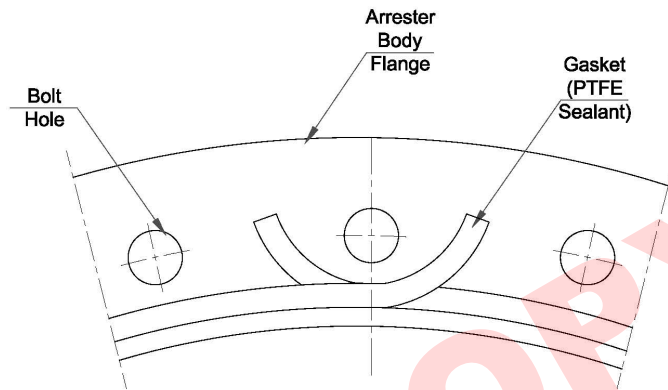

Figure 2 – Gasket Installation
- Overlap or cross the ends of the sealant to complete the seal. Refer to Figure 2.